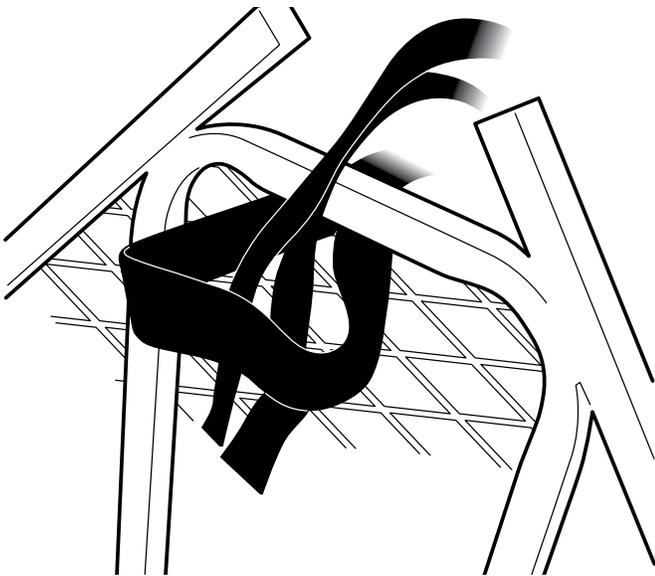
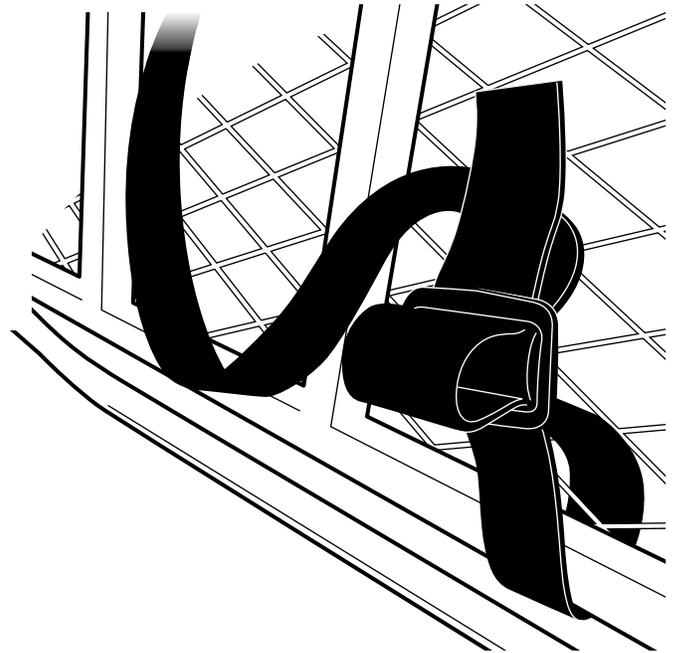

Figure 4A
Figure 4C
5. Attach the (2) provided 9" camo foam pads (48736) to the armrests by wrapping around tubing and attaching Velcro together.
7. Attach backpacking straps (48067) at desired location on platform. Fold strap in half. Feed folded strap through platform mesh. Feed the two loose ends of strap through folded loop and pull tight forming a cinch knot. **SEE FIGURES 4A & 4B.** Feed straps through platform mesh and secure with provided tri-slide buckles. **SEE FIGURE 4C.**